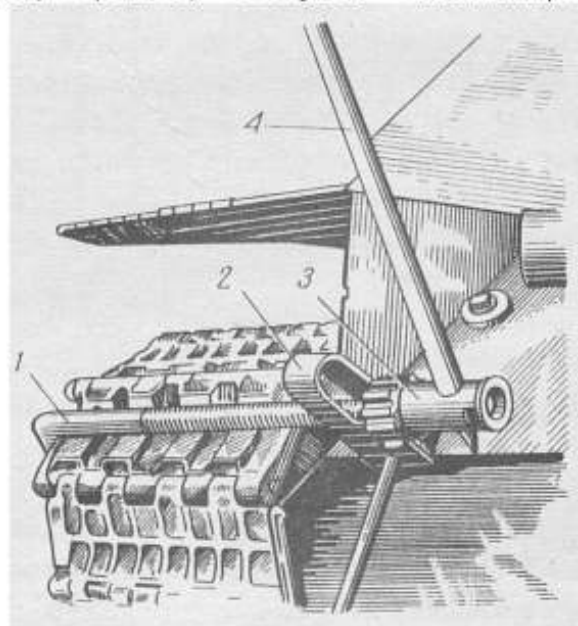

FIG. 3. ENGAGING THE CRANK OF TRACK ADJUSTING MECHANISM BY MEANS OF FIXTURE 12-00
9. Rotating nut 6 by the ratchet wrench, bring the teeth of crank 1 of the idler wheel in mesh with the teeth of bracket 3. To facilitate meshing of the crank teeth with the bracket teeth, fixture C6-00 may be used (Fig.3).